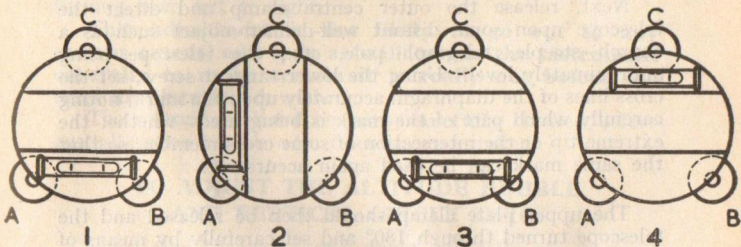

Fig. 9
Dispose the instrument with the plate bubble parallel to screws A B, Fig. 9 (1), and level up by means of those two screws. Next, turn instrument through 90° and level again but **with screw C only** (2), this will verticalise the instrument roughly in all meridians.